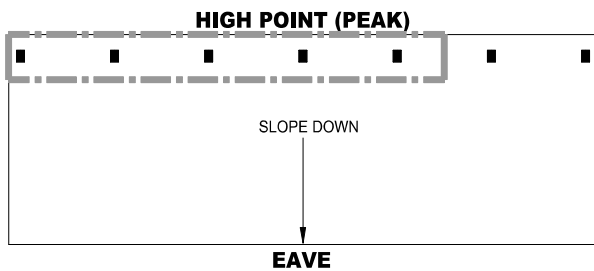

FIGURE 21A
- Calculate the most hydraulically demanding 5 contiguous DS sprinklers. See Figure 21A.